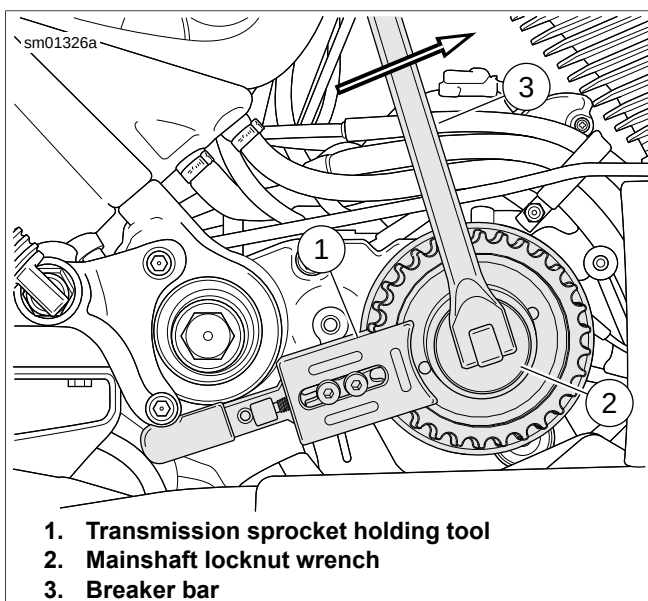

Figure 5-104. Removing Transmission Locknut
- See Figure 5-104. Install the FINAL DRIVE SPROCKET HOLDING TOOL (Part No. HD-46282-A) (1). Hold the sprocket nut with MAINSHAFT LOCKNUT WRENCH (Part No. HD-46288) (2). Use a breaker bar (3) to loosen the nut. Place handle of sprocket holding tool under bottom of footrest bracket. Turn nut **clockwise** to remove it.